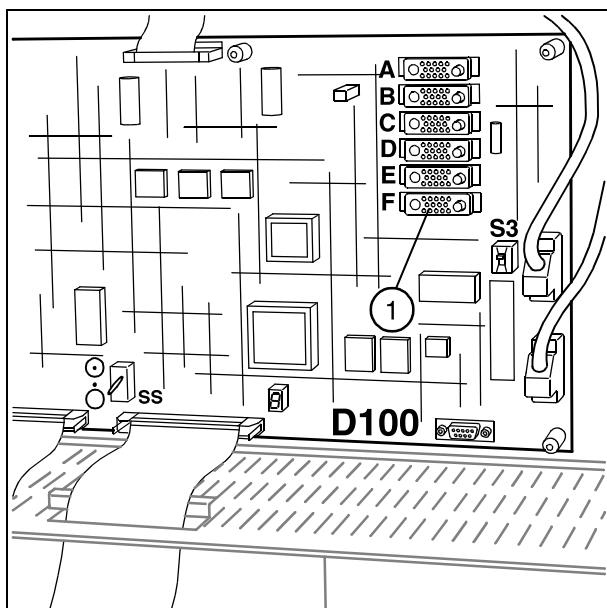

Fig. 12:
- Pull in the IONTOMAT standard cable at the **left** side of the frame of the power cabinet, run it up and plug it in to board D100.A ... F (1/ Fig. 12 / p. 25).
- Draw in the IONTOMAT cable at the **left** side in the frame of the power cabinet, run it upwards and plug it in to board D100 A ... F (Fig. 12 / p. 25).